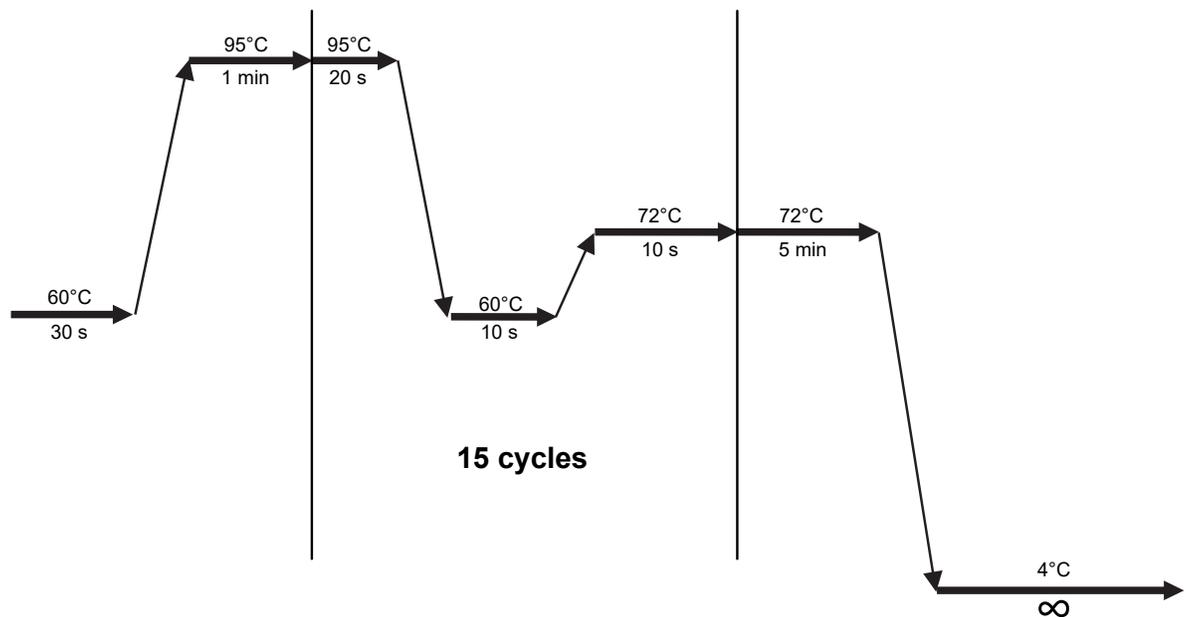

Figure 17 OncoScan 2nd PCR thermal cycler protocol.
2. Start the OncoScan 2nd PCR protocol on the thermal cycler. When the thermal cycler block temperature reaches 60°C, pause the protocol. (Figure 17.)
2. Resume the OncoScan 2nd PCR thermal cycler protocol. (Figure 17.)